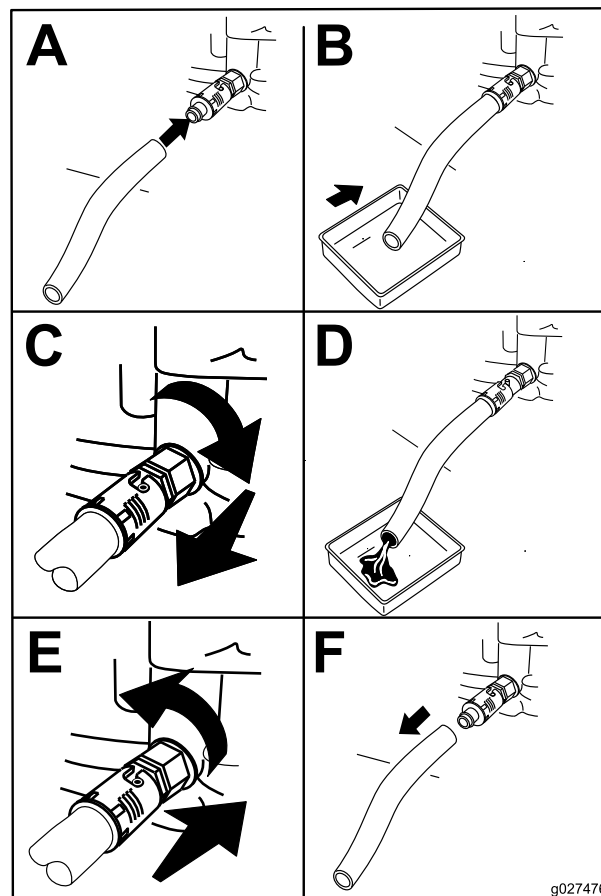

Figure 17
4. Drain the oil from the engine (Figure 17).